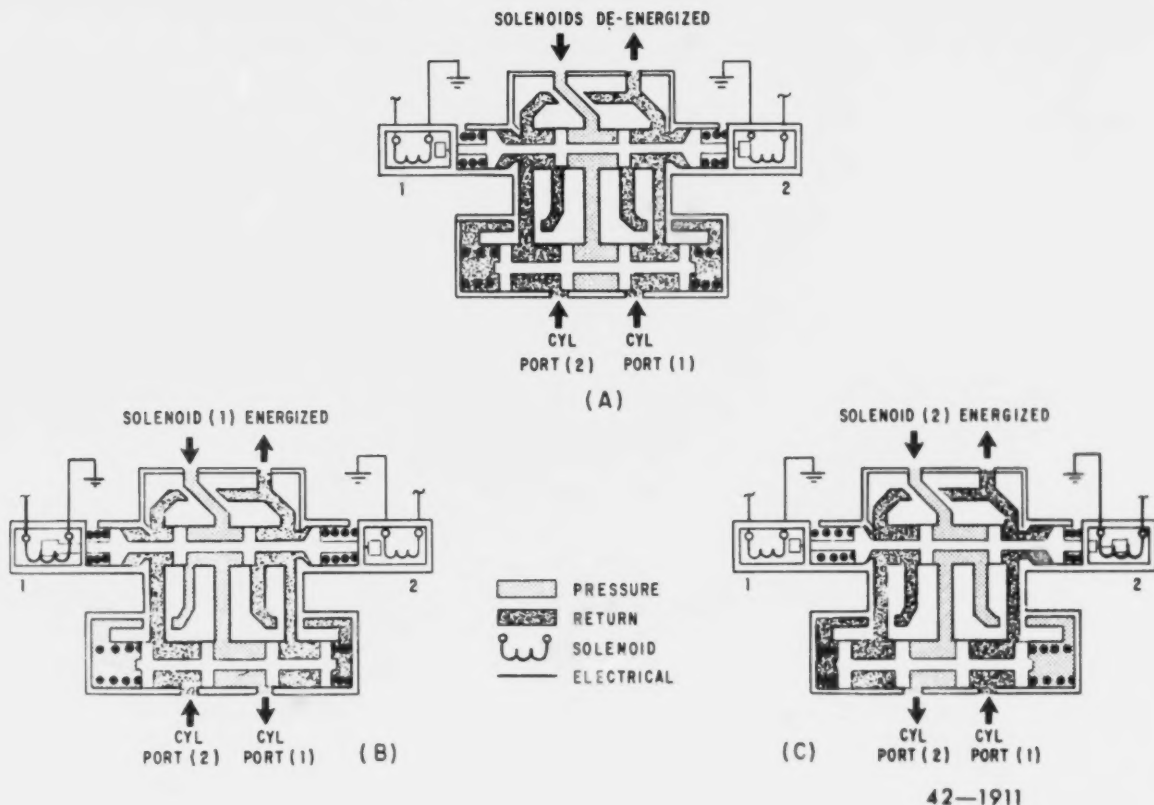

Figure 4-5. Solenoid-operated slide selector valve.
Slide. Figure 4-5 shows a slide selector valve. The body has 4 ports; pressure, return, and two alternating ports. Inside the valve there are two slides (spools), which are centered within the valve by springs. The upper spool is called the pilot spool, and the lower one is called the control spool.
a. Deenergized position. With both solenoids deenergized, the valve is in the neutral position. (See fig. 4-5, A.) By observing the spools very closely, you can see that the pressure line is blocked off. Further examination will reveal that both return lines are open. In other words, fluid from both cylinder 1 and cylinder 2 can flow to return. Notice that the springs on either side of the pilot spool and the control spool are keeping the valve centered.
b. Solenoid 1 energized. View B of figure 4-5 shows the valve with solenoid 1 in the energized condition. Note that the pilot spool has moved to the left, compressing the spring. When the pilot spool is in this position, it allows fluid to flow from the pressure port down to the left side of the control spool. When pressure acts against the left side of the control spool, it is forced to move to the right, compressing the spring on the right side of the control spool. Notice now that fluid can flow from the pressure port, through the control spool, and out through the cylinder port 1. Fluid from cylinder port 2 can now flow through the valve and back to return.
c. Solenoid 2 energized. In view C of figure 4-5, solenoid 2 is in the energized condition. This of course reverses the pressure and return ports, allowing pressure to be exerted toward cylinder 2 and opening cylinder 1 to return.
Using figure 4-5 and figure 4-6, determine the operation of the slide and poppet type solenoid-operated selector valve.